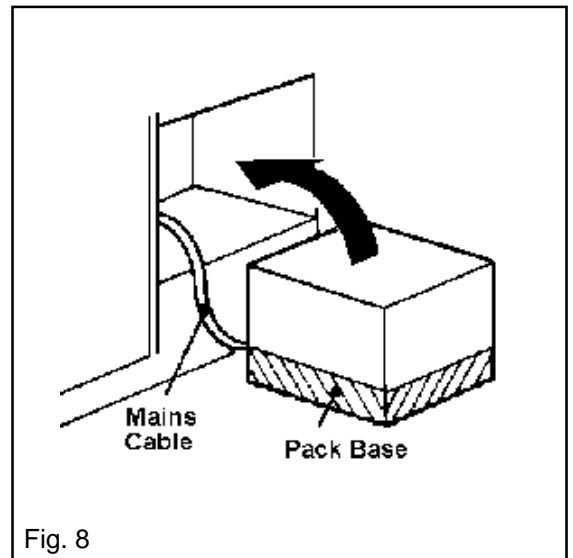

Fig. 8
- Place appliance next to the space in which it will be installed. See Fig 8.